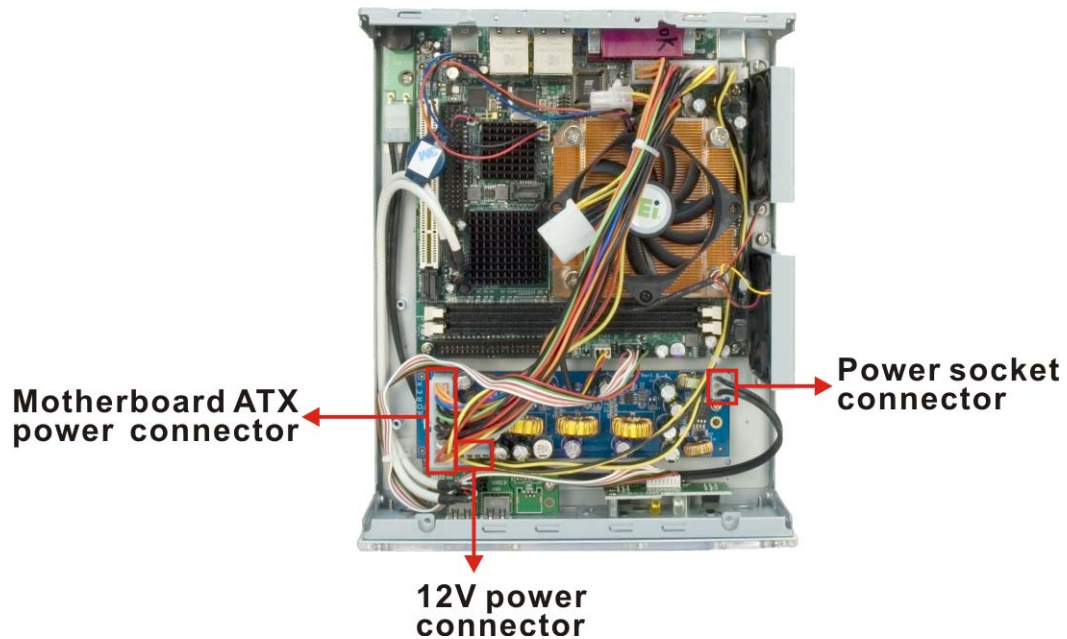

Figure 7-4: Power Module Internal Connectors
Step 4: Remove the following connector cables (**Figure 7-4**):
Step 3: Reconnect the following cable connectors (See **Figure 7-4**):